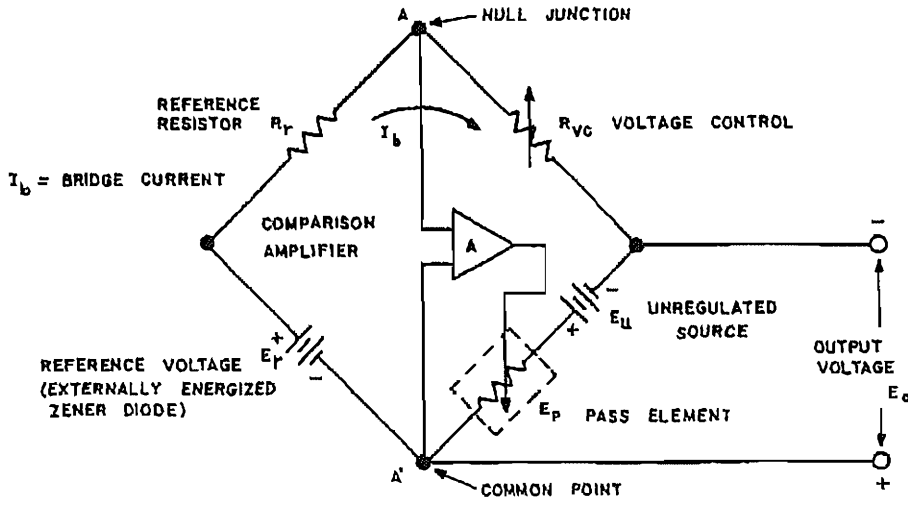

FIG. 3-4 KEPKO POWER SUPPLY AND COMPARISON BRIDGE CIRCUIT.
3-8 **GENERAL.** A few general remarks may be in order to familiarize the user of this equipment with the terminology and basic equations pertaining to remote programming of the Kepco PAT Power Supplies. Electrically, the power supply consists of the unregulated d-c source (E_U), the pass element (E_P), the d-c error amplifier (A), and a comparison circuit which resembles a 4-arm electrical bridge. (Refer to FIG. 3-4.) The elements of the bridge are arranged to produce a virtual zero at the amplifier input when the bridge circuit is at balance ($V_{AA'} = 0$). Any tendency for the output voltage to change in relation to the reference voltage (E_r) creates an error signal which, by means of negative feedback and the amplifier, tends to correct the output voltage towards restoration of bridge balance.